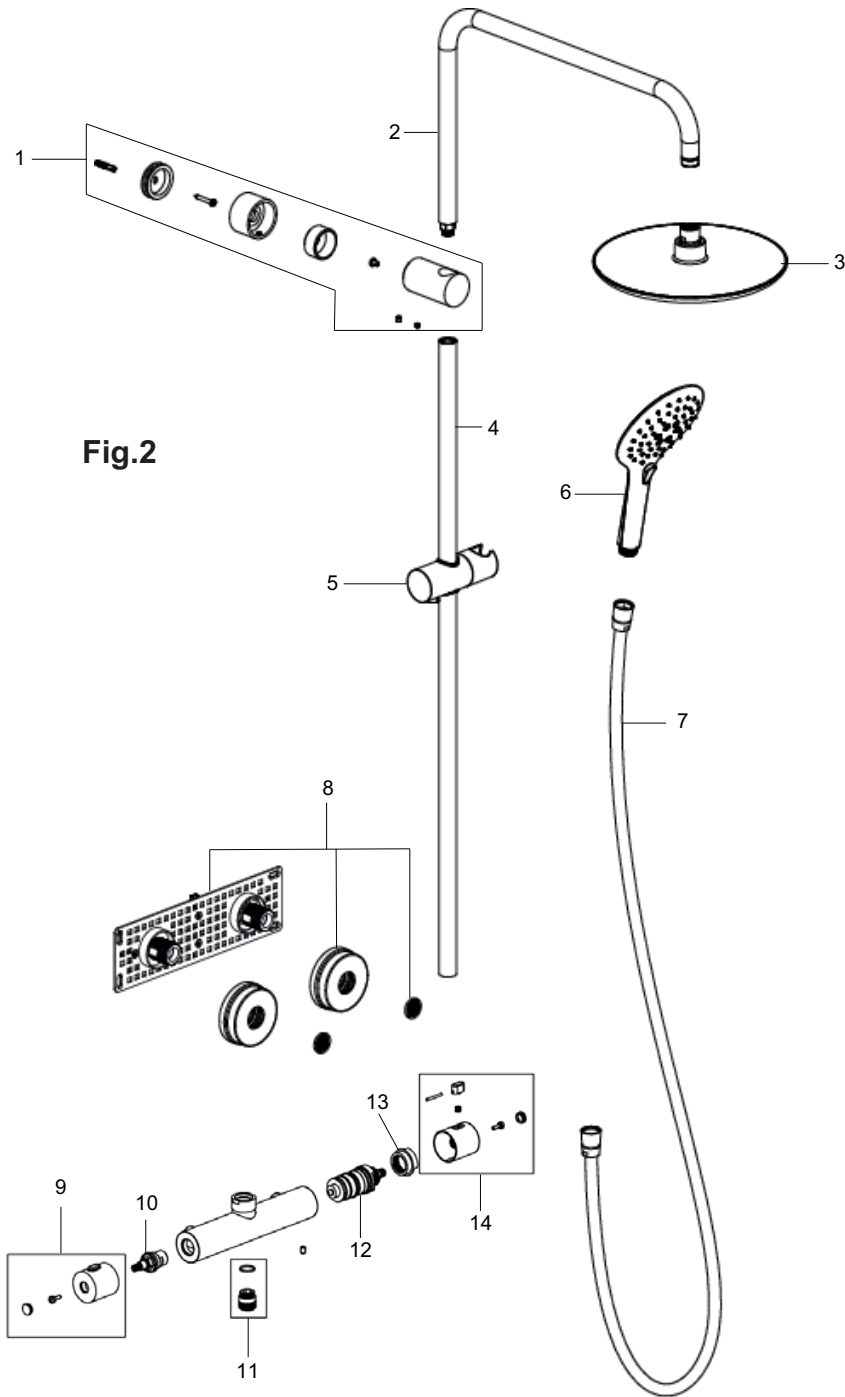

Fig.2
4.3 Rigid Riser Installation (Ref:Fig.2) - CLR SHXDIVFF C only
CLR SHXDIVFF C (See Fig.2) Page 08